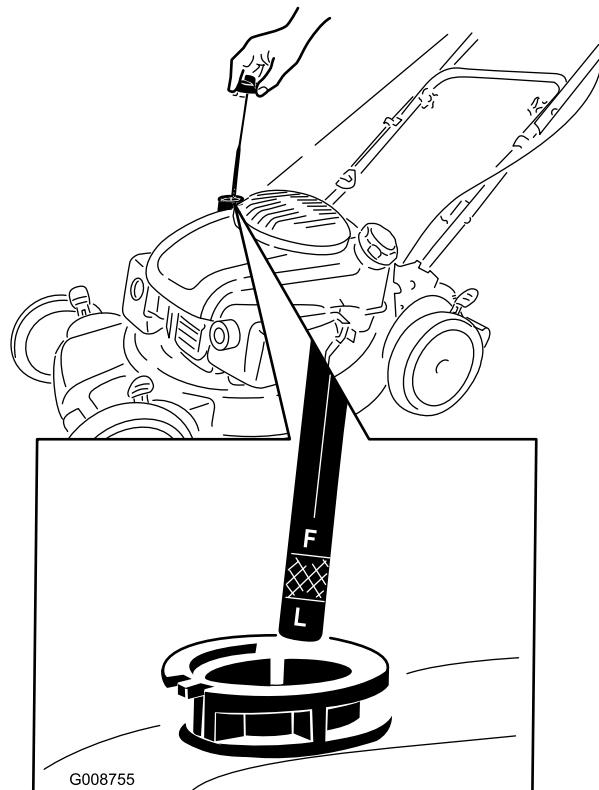

Figure 34
2. Remove the dipstick (Figure 34).
- Slowly pour oil into the oil fill tube until the oil level reaches the Full line on the dipstick (Figure 34). Wait 3 minutes after adding oil to check the oil level with the dipstick. **Do not overfill.** (Max. fill: 22 oz. (0.65 l), type: 10W-30 or SAE 30 detergent oil with an API service classification of SJ or higher.)
**Note:** Each time you check the oil level, remove the dipstick and wipe it clean, insert it into the oil filler neck (but **do not** screw it in), then remove it again and check the level (Figure 34).